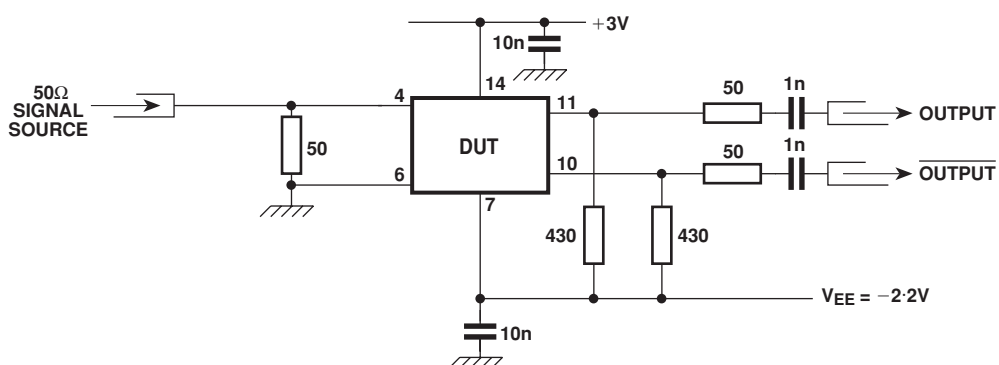

Fig. 6 Circuit for using the input signal about ground potential
6. These devices may be used with split supply lines and ground referenced input; a suitable configuration is shown in Fig. 6.